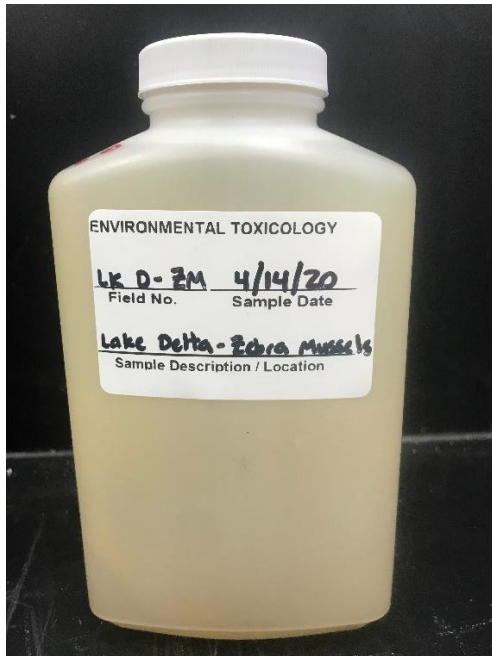

Figure 2 Example of labelled sample bottle.
5. Label the sample bottle with an external label. Prepare labels prior to sampling so that you don't have to write on wet paper (Figure 2).